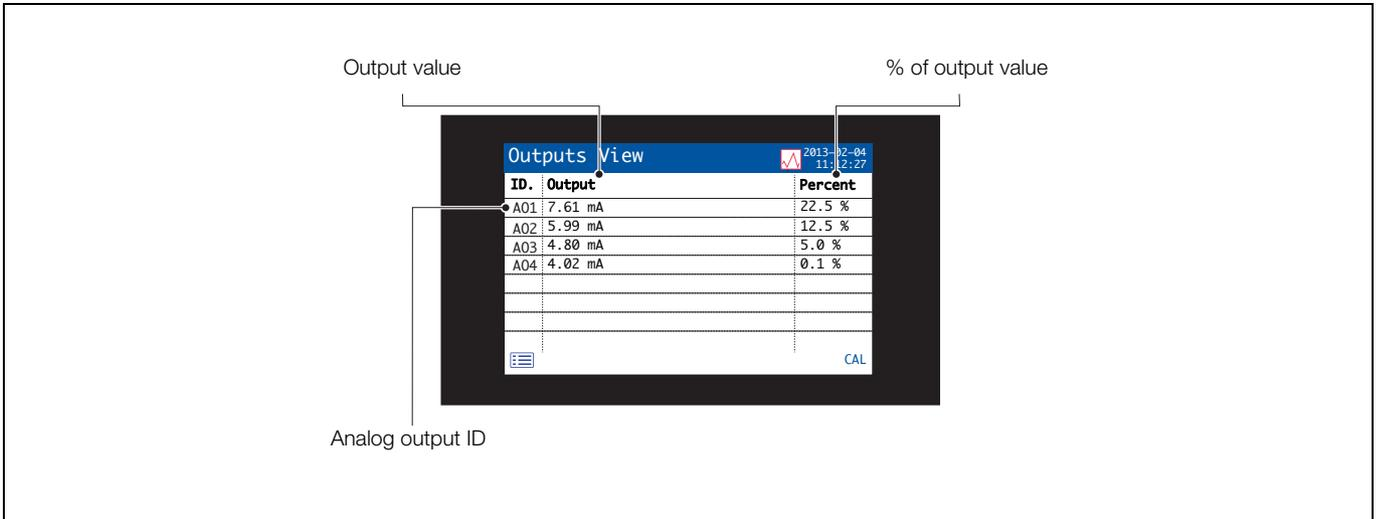

Fig. 9.8 Outputs view
- *Outputs View*: used to display a list of alarms identified by analog output ID, output value and percentage of output value – see Fig. 9.8.